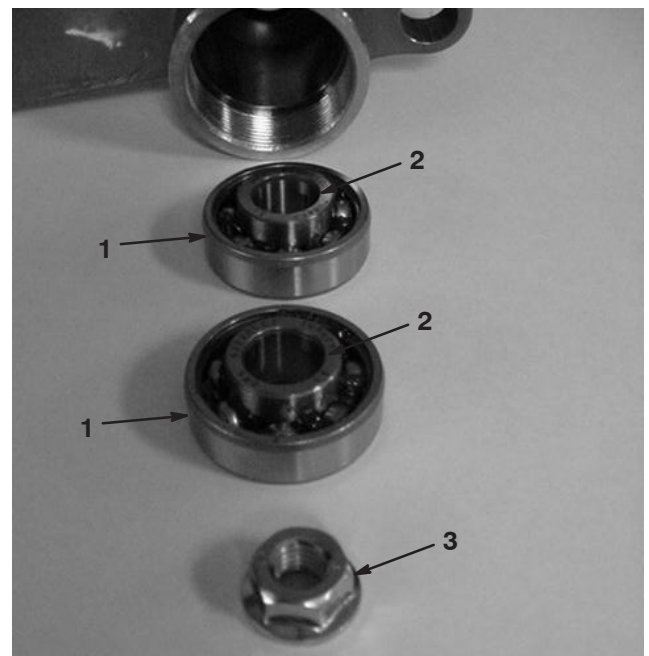

Figure 10
19. Insert the bearings onto the groomer shaft in groomer housing (Fig. 10). The extended bearing races should contact each other when installed to create a 1/4" gap between the bearings. Support the groomer shaft to reduce misalignment through the bearings.
20. Secure groomer shaft to the groomer housing assembly with a flange nut (Fig. 10). While holding the flange lock nut on the other end of the groomer shaft, torque the nuts to 17–21 ft.-lb. (23–28 N·m). Do not overtighten the nuts.